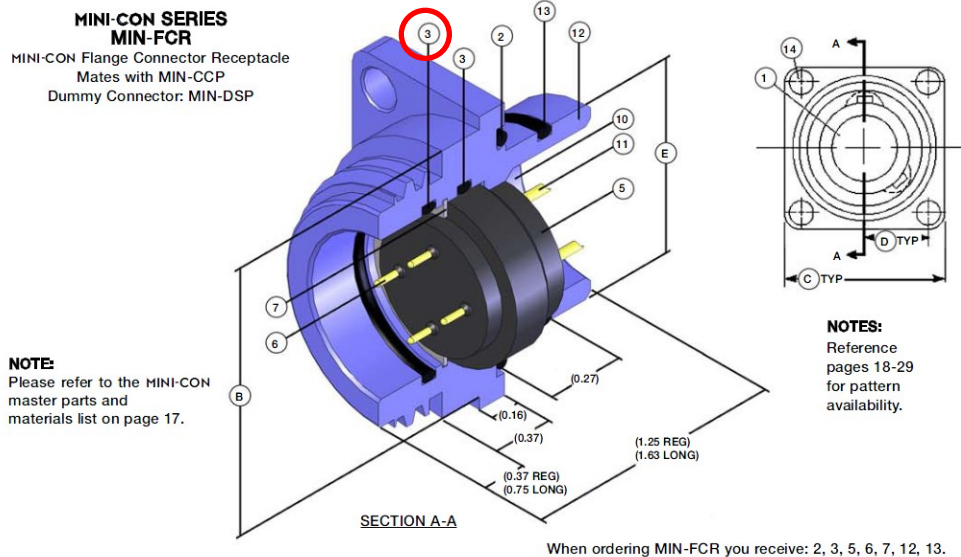
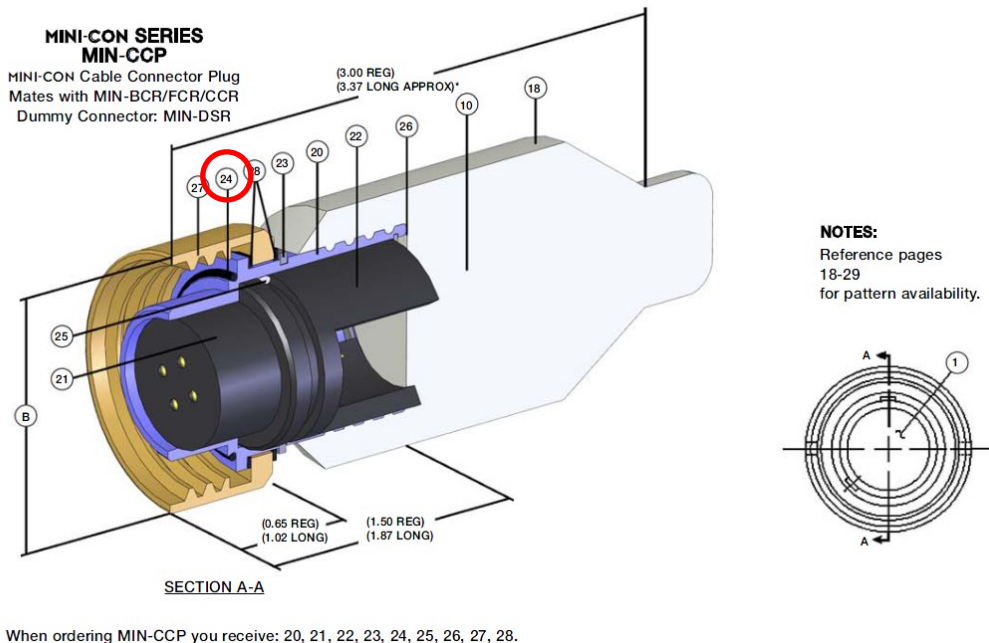

Figure 1: SEACON MIN-CON receptacle (MIN-FCR)
Figure 2: Seacon cable connector (MIN-CCP)
The cable connection water tightness is performed with 2 O-rings (1 in receptacle, 1 in connector) which provides redundancy: ref. 3 on Figure 1 and ref. 24 on Figure 2.